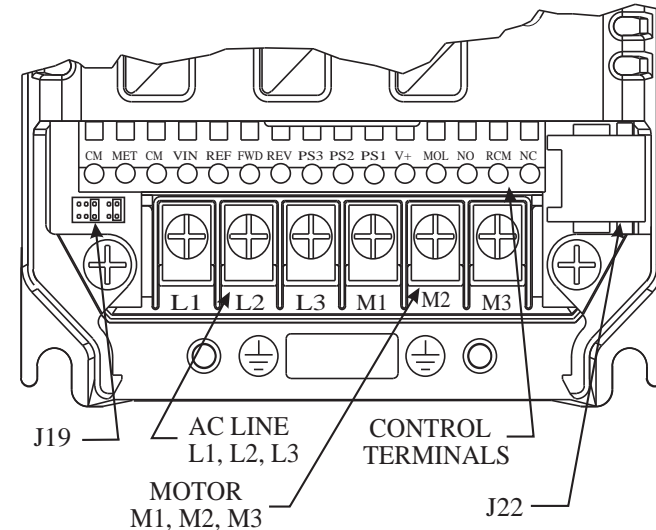

FIGURE 2.8
The control terminals are located on the bottom edge of the inverter's control board. See Figure 2.8 and Section 2.11. These terminals are available for use with external devices.
The E-trAC® XFC series micro-inverter has a 15 position control terminal block. Some functions are defined by the setting of jumper **J19**, while others are defined by programming. Refer to Section 5 - Connection Diagrams and Figure 2.8.
J19 is a pin-jumper selector located below the terminal block on the left-hand side of the control board (See Figure 2.8). It has five (5) positions and two movable shorting jumpers. One jumper selects the analog speed reference used and the second jumper selects the active state (High or Low) of the digital inputs. A pair of small needle nose pliers will prove useful for moving these jumpers. **REMOVE AC POWER AND WAIT FOR ALL INDICATORS TO GO OUT BEFORE CHANGING THIS JUMPER.**